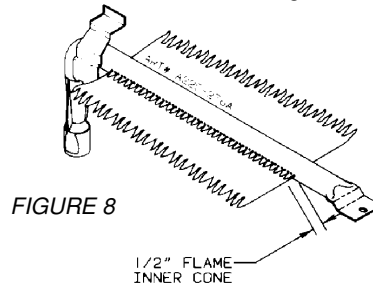

FIGURE 8
- The approximate length of the flame of oven burner is a  $\frac{1}{2}$  inch distinct inner blue flame, figure 8.